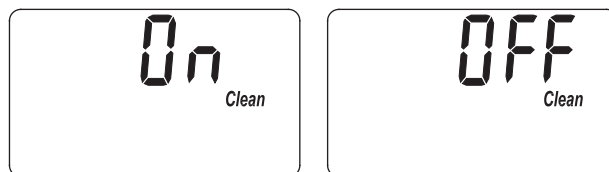

FIG. 31
1. Press and hold the PROGRAM button until the screen in Figure 29 is displayed. Once in this display, press the PROGRAM button twice and one of the two displays in Figure 31 is shown.